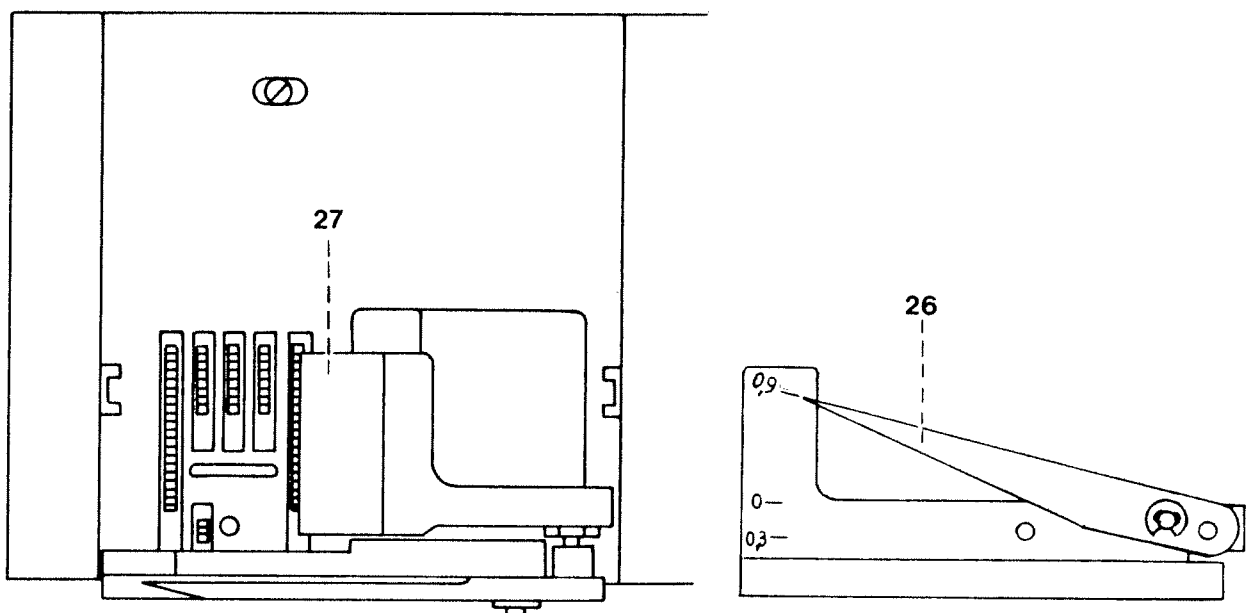

Fig. 4b
- Move the gauge a little to the left to rest feeler lever 27 on the feed dog (Fig. 4b).
At its highest position, the pointer must point exactly at the mark 0.9 (Fig. 4b).
- Turn eccentric stud 25 counter-clockwise until pointer 26 points exactly at mark 0.9 (Fig. 4b).